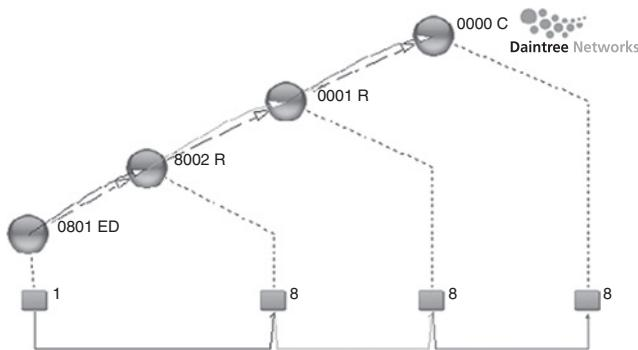

Figure 9.12: Island Gateway as Seen in Daintree
Where things get interesting is at packet 32. Before examining the packets in detail, it's useful to understand the sequence of events. Look at Figure 9.12. The gateway is node 0x0351 (ZED) as seen on the left. A command issued from the gateway island hops through island 0x0002 (ZR), and then island 0x0001 (ZR) to reach the final destination, an HA OnOffLight at node 0x0000 (ZC) on the right.